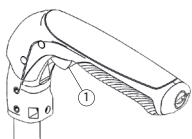

Fig. 10.2
- To fold or open push handle press on button (1) to engage the folding mechanism. (Fig. 10.2).